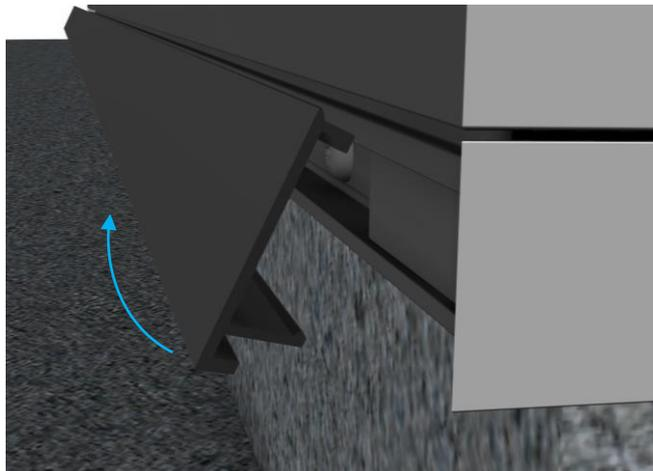

Figure 2 – Clip release direction
1. Remove the clip on covers around the lower perimeter of the rooflight. This is done by first pulling the bottom to release as shown in *Figure 2*.